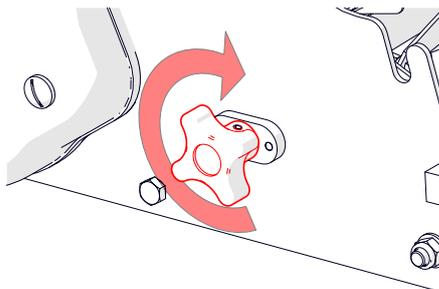

Fig.8G - Secure the cassette retaining pin.
8. Tighten the cassette retaining pin (Fig.8G).